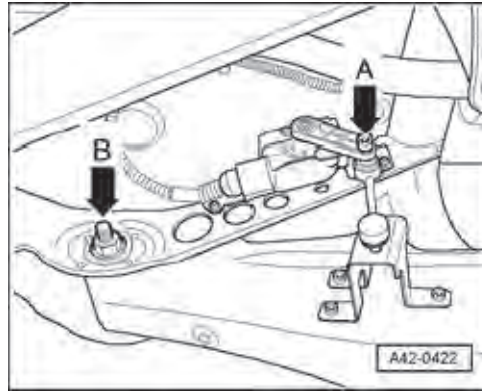

fig. 2
*If the vehicle is equipped with automatic vertical headlight control, disconnect the coupling rod from the lower transverse link (fig. 2).*